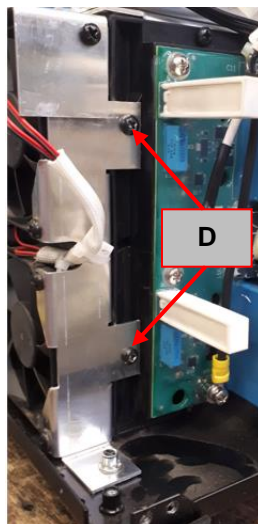

Figure 45
8. Using the PH02 screwdriver remove the 2 screws (**D**). See **Figure 45**